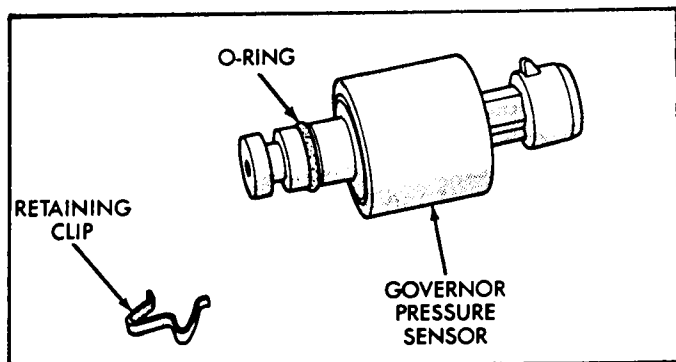

Figure 117
56. Install new "O" ring on the governor pressure sensor, and lubricate with a small amount of Trans-Jel, as shown in Figure 117.